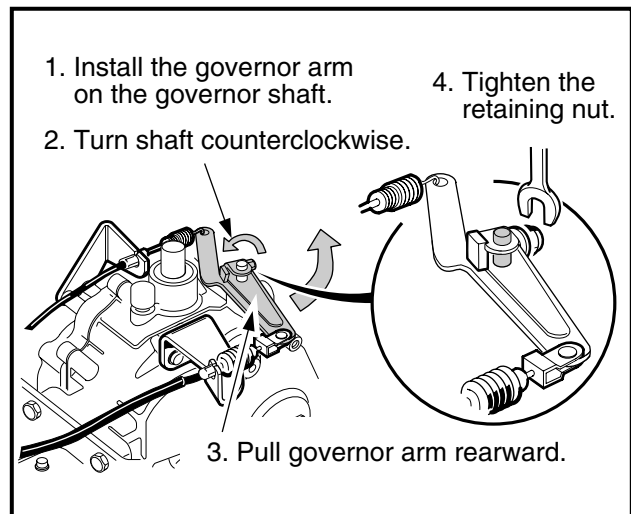

**Figure 16a-95 Accelerator Cable Bracket**
10. While holding the arm and shaft in the fully counterclockwise position, tighten the governor arm lever nut to 35 in-lb (4.0 N·m) (**Figure 16a-97, Page 16a-43**).